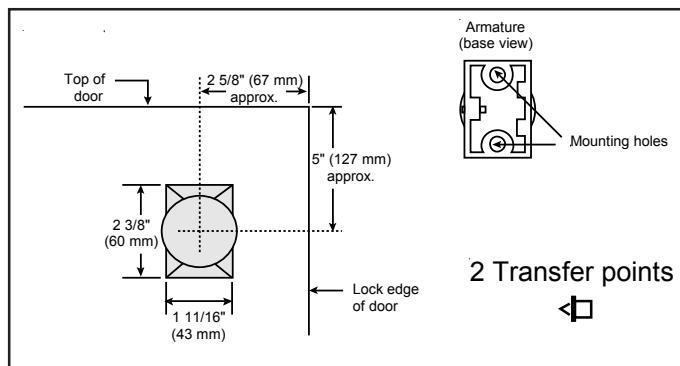

Figure 3. Mounting the Armature Assembly
NOTE: Armature assembly must be mounted vertically (Figure 3) to obtain correct alignment with the electromagnet.
- Place the transfer marking points in the armature mounting holes (Figure 3).